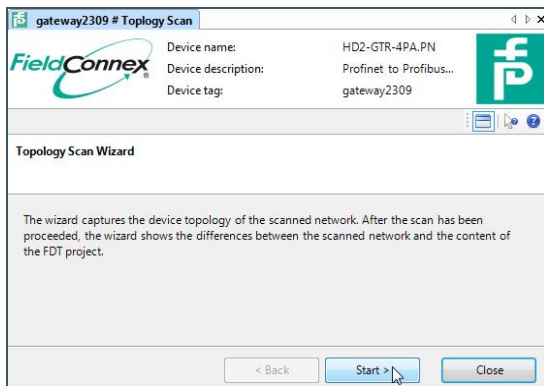

Figure 55: Start searching for PROFIBUS PA devices
7) Click the **Start** button (see: Figure 55: Start searching for PROFIBUS PA devices).